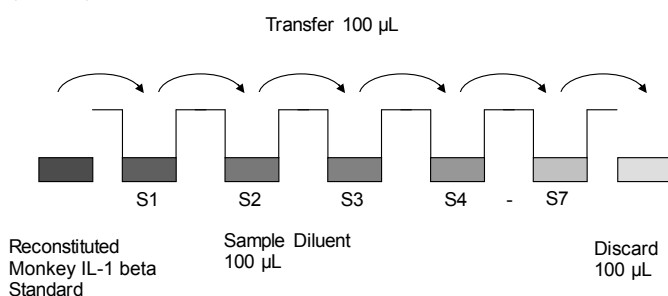

Fig. 7 Dilute standards - microwell plate
3. Standard dilution on the microwell plate (Alternatively the standard dilution can be prepared in tubes - see "External standard dilution" on page 3): Add 100 µL of Sample Diluent in duplicate to all standard wells. Pipette 100 µL of prepared standard (see "Monkey IL-12p70 standard" on page 3, concentration = 500 U/mL) in duplicate into well A1 and A2 (see Table 1). Mix the contents of wells A1 and A2 by repeated aspiration and ejection (concentration of standard 1, S1 = 250 U/mL), and transfer 100 µL to wells B1 and B2, respectively (see Figure 7). Take care not to scratch the inner surface of the microwells. Continue this procedure 5 times, creating two rows of monkey IL-12p70 standard dilutions ranging from 250.0 to 3.9 U/mL. Discard 100 µL of the contents from the last microwells (G1, G2) used.